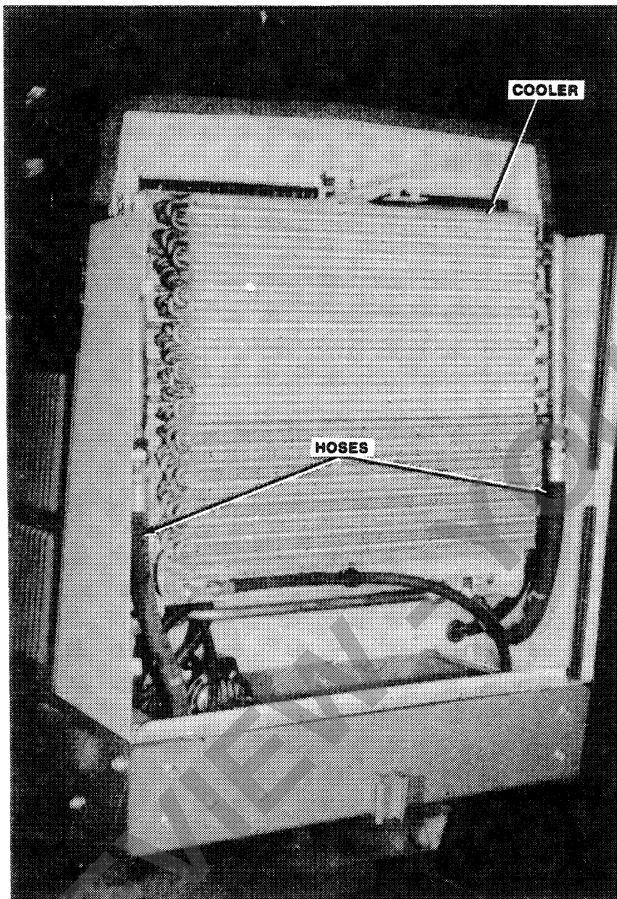

FIGURE 6-27: Oil Cooler Removal
2. Lower cooler mounting frame to access oil cooler mounted ahead of radiator on cooler frame top (Figure 6-27).